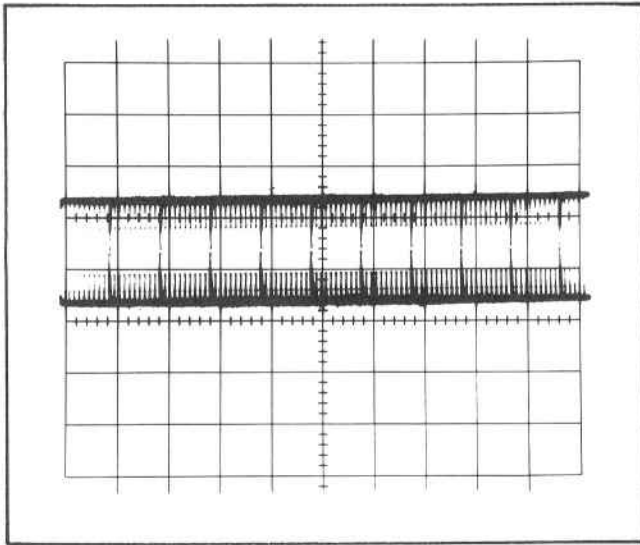

Fig. 5-2. CRT display for step 4.
d. Position the traces so that the time-mark tips are touching (see Fig. 5-2).